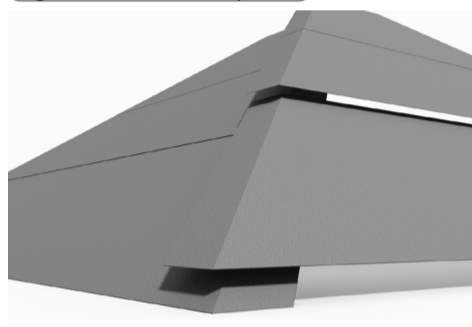

fig 7: Hip laps
7. The Danelaw LR120TT should extend over any hips and overlap the underlay on the opposite side of the hip by not less than 150mm beyond the junction line (fig. 7). Alternatively, lay a strip not less than 600mm wide along the length of the hip and over the underlay on either side.